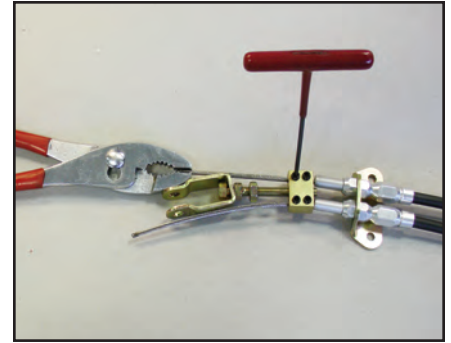

Figure 11
- Remove slack from inner cable by loosening setscrews, pulling the inner cables through the block with pliers and tightening setscrews, Figure 11.